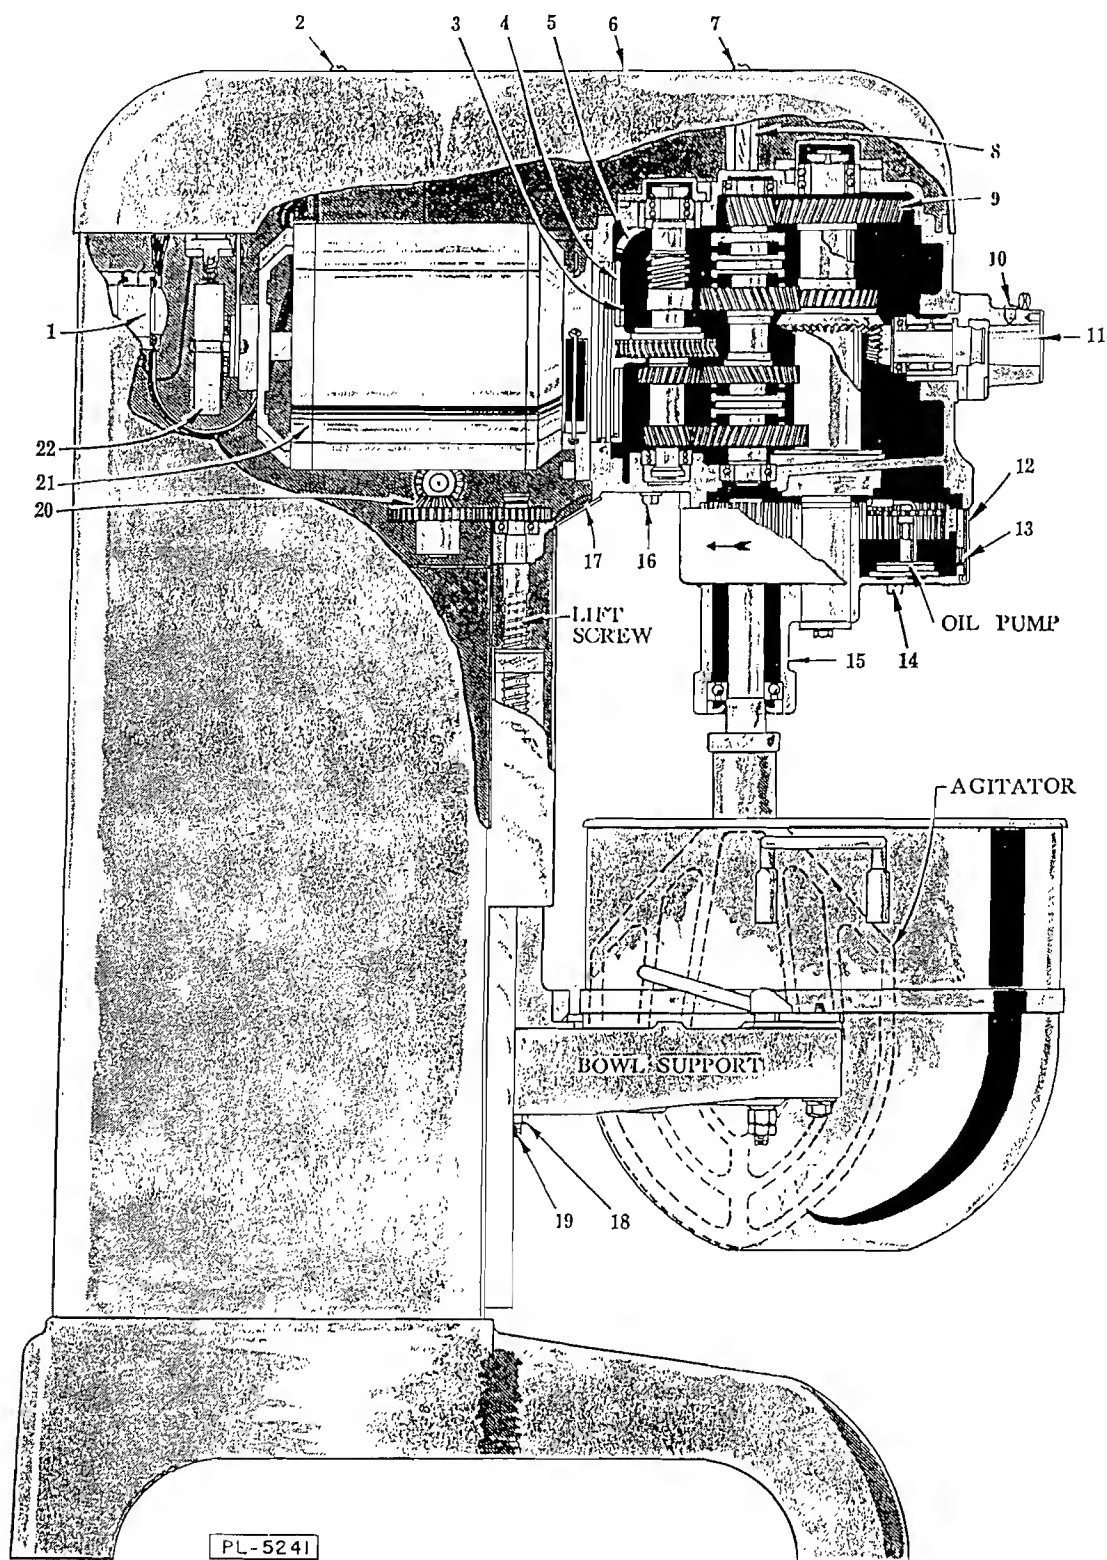

FIG. 1
Before making the electrical connections, read the specifications on the name plate to make sure that they agree with those of your electric service. Remove the top cover, which is held in place by two screws (2 and 7, Fig. 1). Bring the power line in through the hole at the top of the pedestal, and connect to the motor controller. This is the only connection required. Three-phase machines must be so connected that the planetary runs in the direction shown by the arrow in Fig. 1.
as the oil-fill plug (8, Fig. 1). Use only the special transmission oil that is shipped with the machine. The oil level should be somewhere between the center and top of the oil gage for correct lubrication. If the oil level falls below the gage line when the motor is running, add more oil. While the machine is running, look down the oil-fill and make sure that oil is pouring out of the delivery tube onto the gear face.
1 - Remove drain plug (14, Fig. 1) to check on previous draining of the planetary. Then replace.
2 - Remove the drip cup (12, Fig. 1), which is held by two screws.
The gearing is located on the handwheel bracket inside the pedestal. Remove the top cover (6, Fig. 1) and wipe some grease on the gear teeth. Protect yourself from the electrical supply at the starter. The handwheel shaft may be oiled through an oiler on the handwheel bracket.
(1) The oil level in the Transmission should be up to the line in the gage.
(2) The oil level in the planetary should be up to the filling opening. It will be necessary to take off the drip cup and remove the plug (13, Fig. 1) to check this.
(3) When using an attachment, put a drop or two of oil in the oiler (10, Fig. 1).
(4) Keep bowl slideways lubricated.
Adjustment should always be made with the bowl and type B beater in place. Loosen the lock nut (18, Fig. 1) and turn the screw (19, Fig. 1). Be sure to tighten the lock nut after the proper adjustment has been obtained.
In 4th speed, the brake (22, Fig. 1) should stop the planetary in about one revolution.